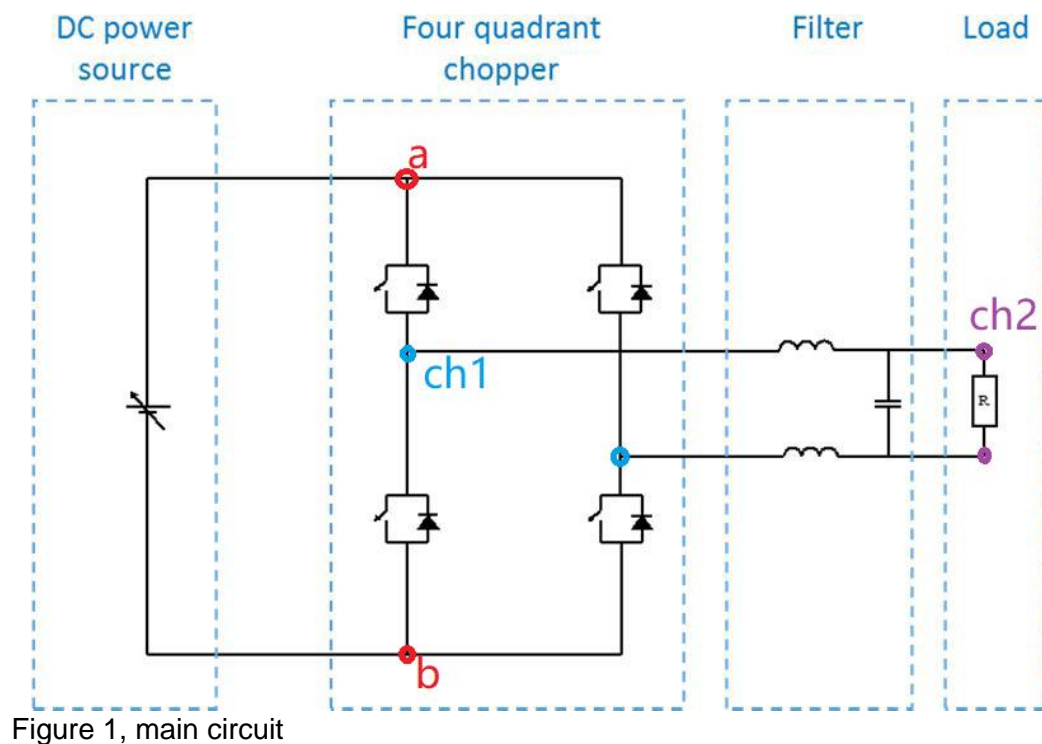

Figure 1, main circuit
1.1 as shown in Fig1, Vab is the supply DC voltage